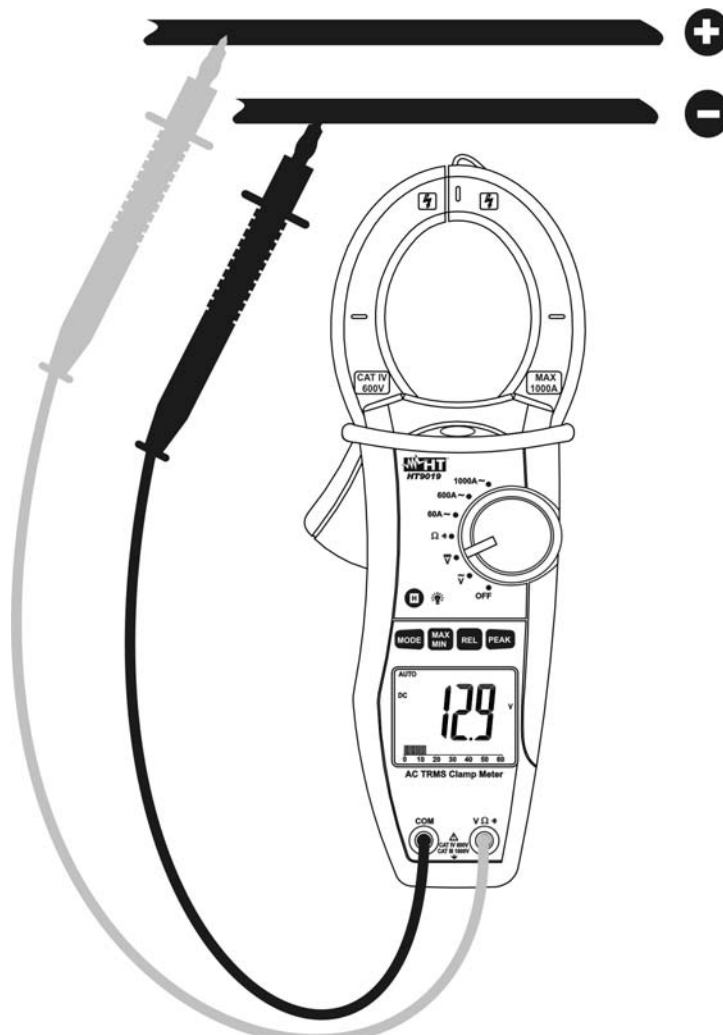

Fig. 4: Taking DC voltage measurements
2. Insert the red test lead plug into $V\Omega$ jack and the black test lead plug into **COM** jack (Fig. 4)